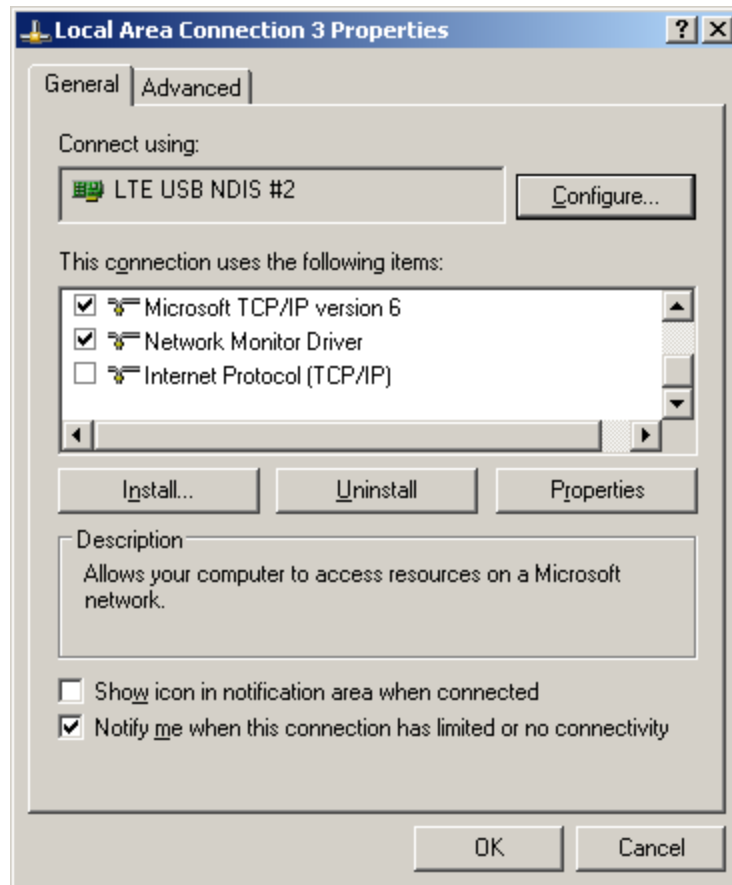

Figure 3-11: Local Area Connection Properties Window
The *Local Area Connection Properties* window displays, as shown in Figure 3-11.
3. Deselect the **Internet Protocol (TCP/IP)** option, as shown in Figure 3-11.